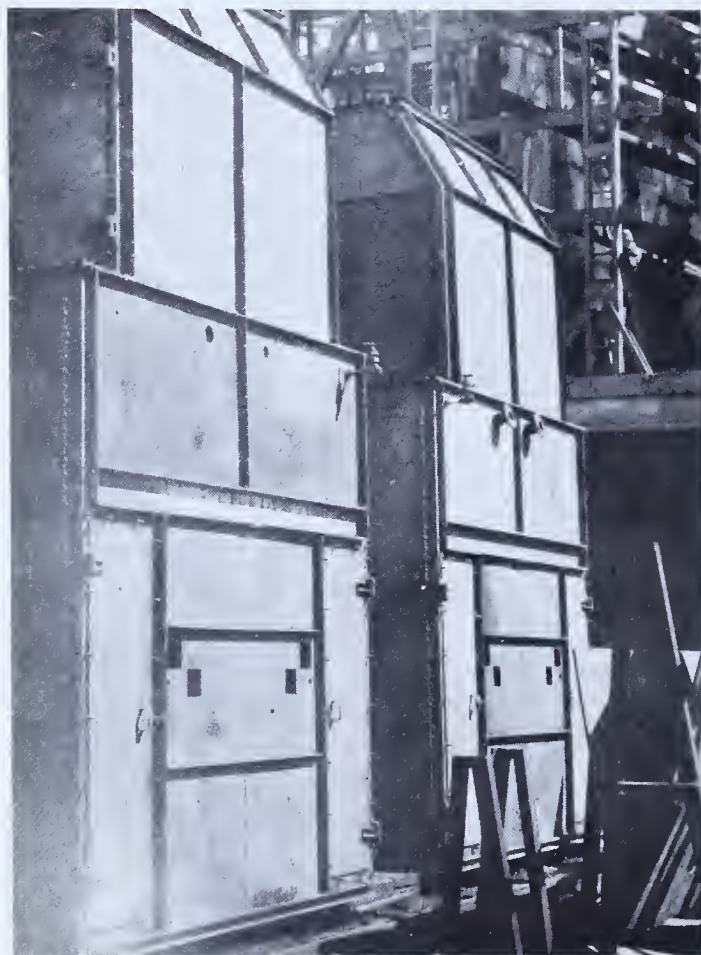

FIG. 543 — *Rear Air Casing Installed*
4. With the crane, place pc. mk. AD1, right, on the boiler base at the rear as shown in Fig. 543.
6. With the crane, place pc. mk. AD1, left, on the boiler base at the rear as shown in Fig. 543 and Drawing 541.